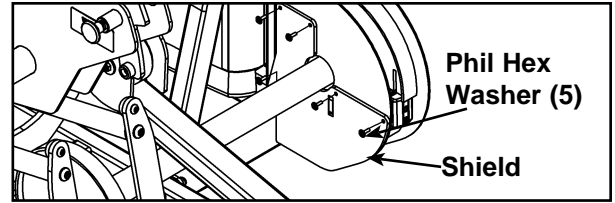

Figure 1A
D. Remove the five Phillips screws securing the shield near the cam and remove shield. See Figure 1A.